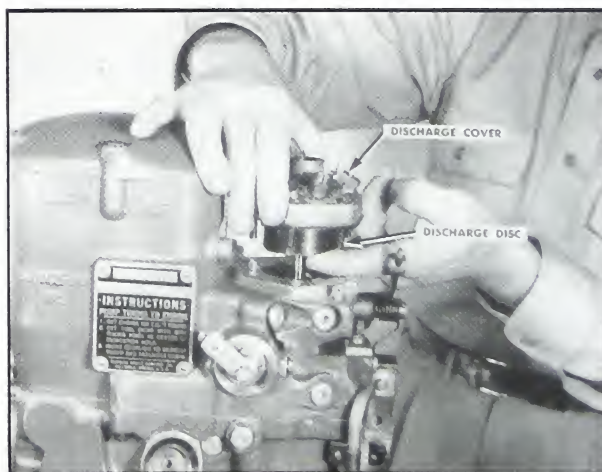

Fig. 5-179. Removing discharge disc and cover
3. Remove cover and disc. Take care to prevent dropping the disc. Fig. 5-179.